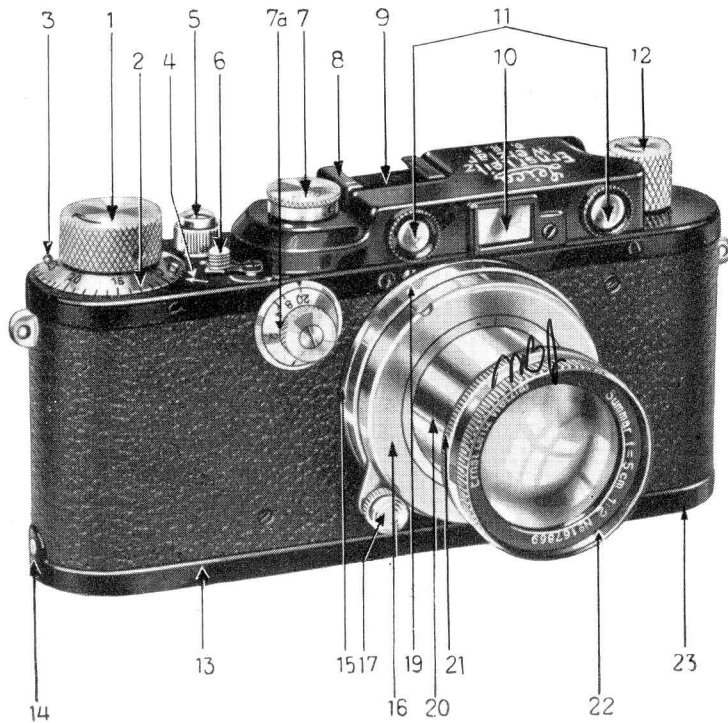

Fig. 22
2. Adjust iris diaphragm by means of lever or ring **21** (Fig. 22).